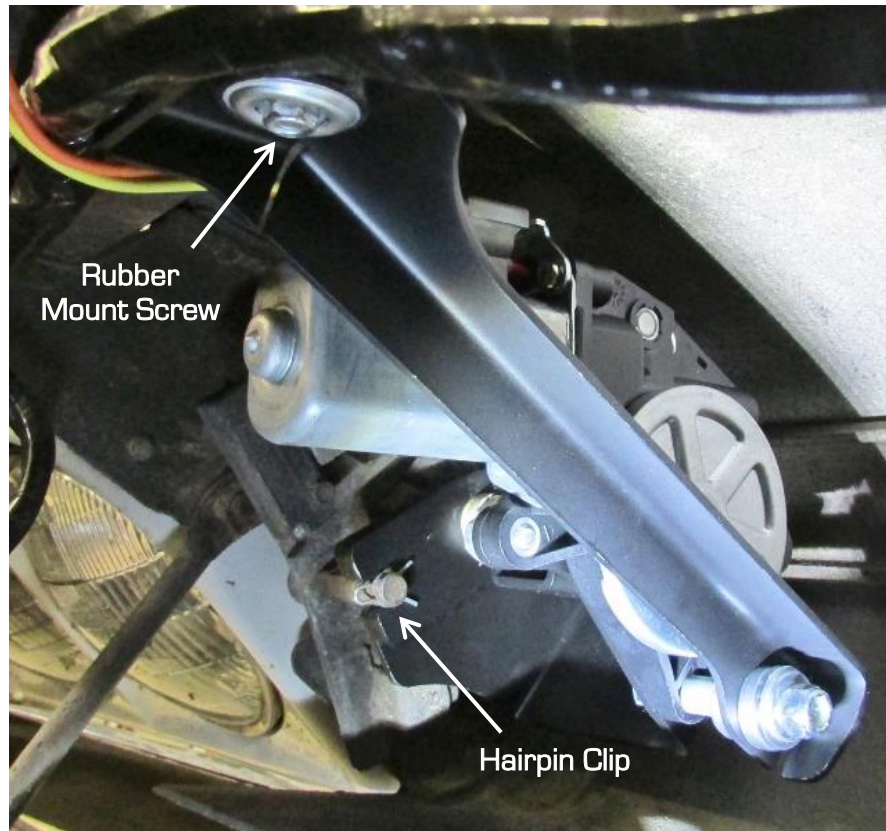

Figure 5 - Install Motor Assembly
9. Install the assembly onto the driver's side headlight door pivot shaft. Move the headlight door by hand until the rectangular part of the shaft can be inserted into the rectangular hole in the motor pitman arm. Line up the slot in the motor bracket with the hairpin clip shaft and slide the actuator assembly in place. Install a hairpin clip (Item 7) on the shaft and a rubber mount screw (Item 6) into the rubber mount, attaching it in the same location as the original motor (Figure 5 on the next page). Repeat this procedure to install the passenger's side actuator assembly (Item 2). **NOTE: Do not attempt to move the pitman arms on the actuators by hand as this could cause permanent damage to the actuators.**